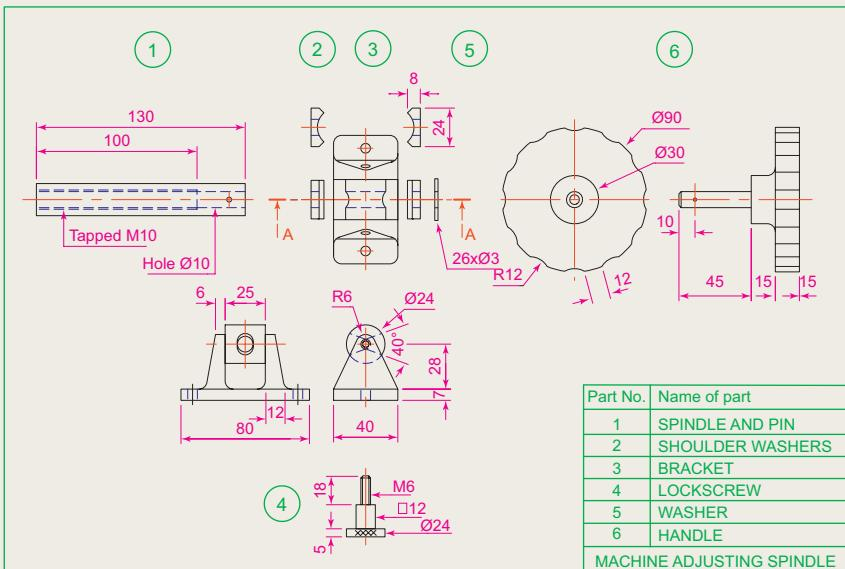

Fig. 11.18 Exercise 2
2. Construct a sheet set similar to that in the answer to Exercise 1 from the exploded orthographic drawing of a **Machine adjusting spindle** given in Fig. 11.18.